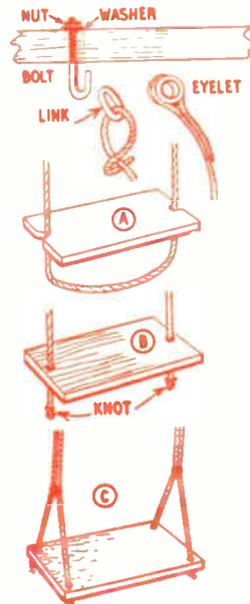

Fig. 5
The ropes are fixed to the cross bar by means of bolts turned at the ends as shown in Fig. 5. Use long bolts and cut off the heads with a hacksaw. Heat and turn to the required shape. Chain links or eyelets with the ropes attached are
The seat is cut from $\frac{3}{4}$ in. thick hardwood, and measures 21ins. by 10ins. It may be attached to the ropes by either of the methods shown in Fig. 5. For small children, method (C) gives a better